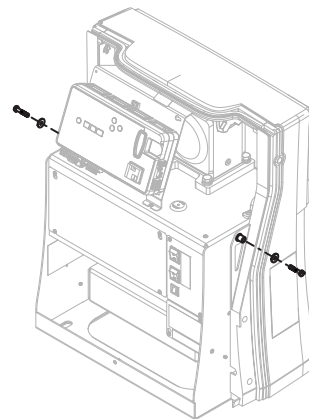

Figure 10. Install M6 Hex Bolts to Latch Posts
3. Install M6 hex bolts at the front cover latch posts (Figure 10).